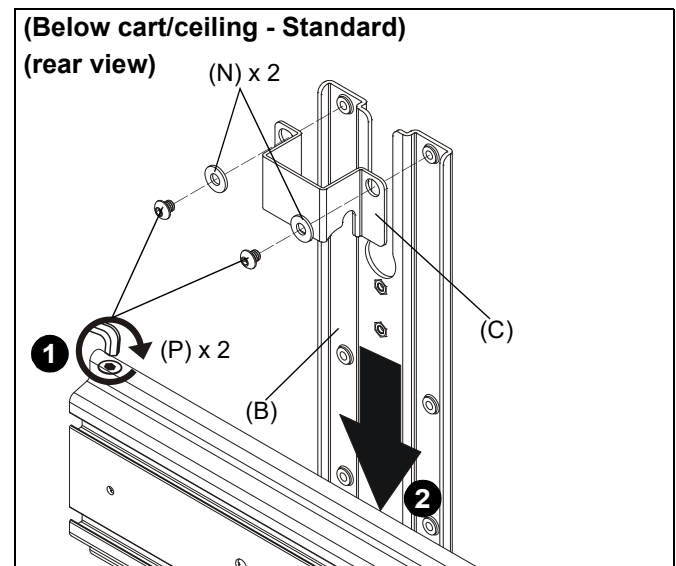

Figure 7
1. Use two 1/4-20 x 1/4" button head cap screws (P) and two large washers (N) to secure shelf bracket (C) to main bracket (B). (See Figure 7)
2. Slide main bracket (B) onto front of cart/ceiling mount head assembly until shelf bracket (C) rests on top of head assembly. (See Figure 7)